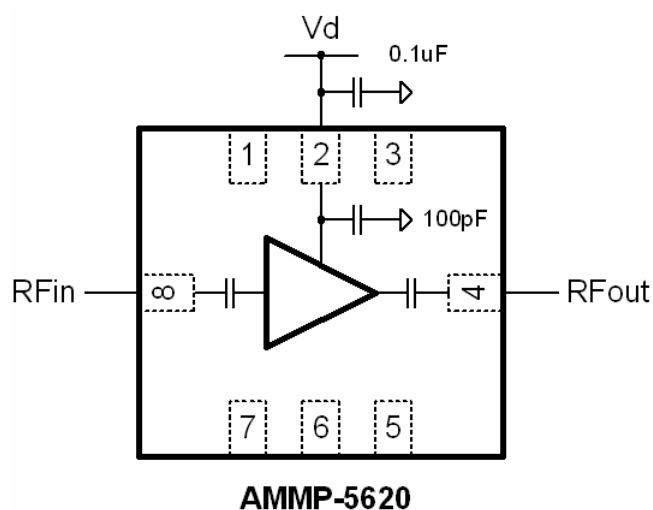

Figure 21. Typical Application
The AMMP-5620 only requires a single positive supply connected to the Vd pin (2). The recommended supply voltage is 5V. The supply should be bypassed with a 0.1uF capacitor placed as close to the component as possible. The package base is the RF and DC ground connection. The biasing arrangement is shown in Figure 21.